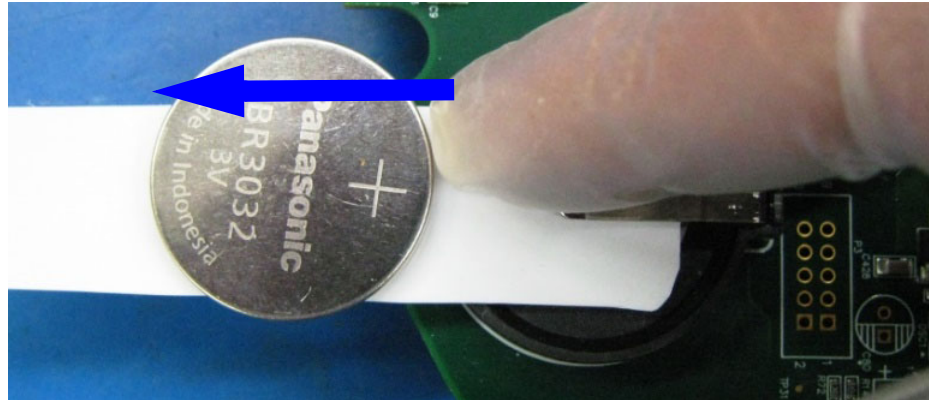

Figure 3-15: Sliding the Battery Out
- Using a gloved hand/finger, gently slide the battery out of the holder and along the battery insertion tool. See Figure 3-15.